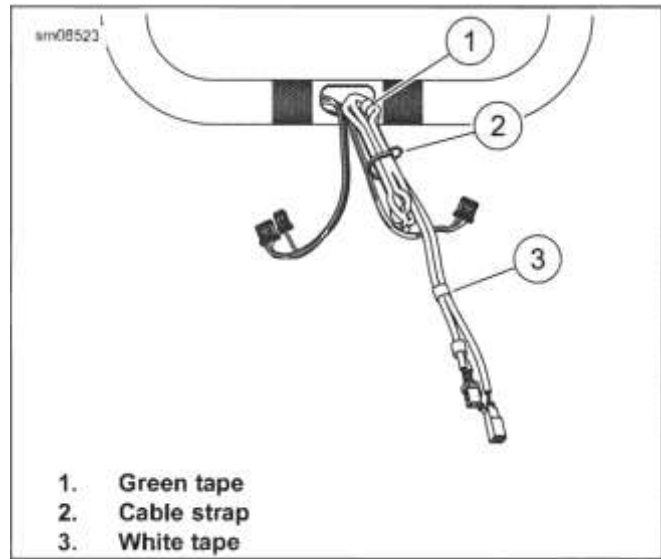

Figure 6-30. Secure TGS Harness (Typical)
- b. See Figure 6-30 Loop TGS harness onto itself.
- c. Install new cable strap (2).